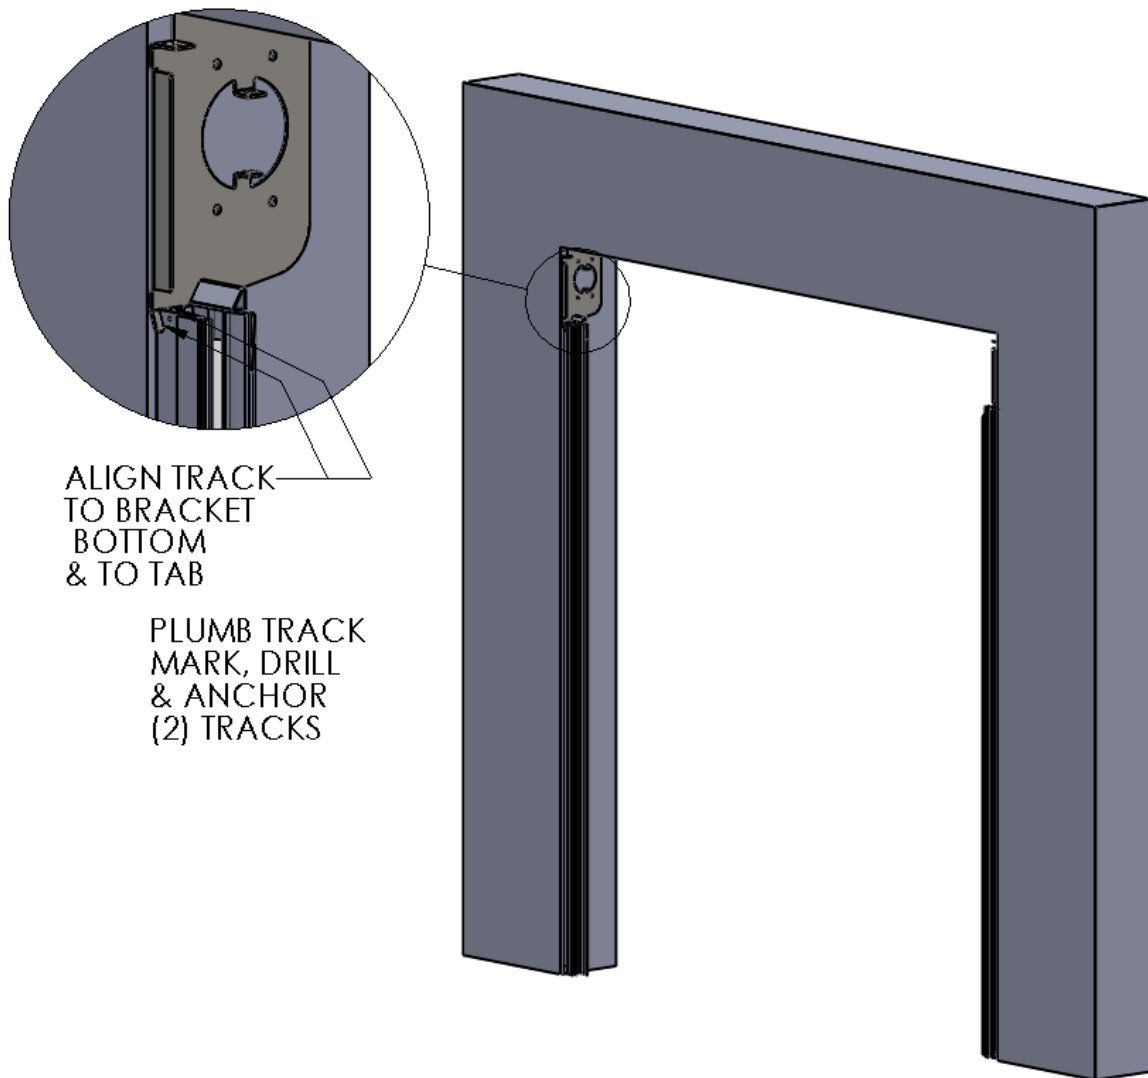

Figure 3 LOCATE, MARK, INSTALL TRACK ASSEMBLIES
1. To locate the Track Assemblies, align the top and back surfaces of the Track to the bottom edge and tab of the Header Mounting Bracket. (Figure 3 LOCATE, MARK, INSTALL TRACK ASSEMBLIES)